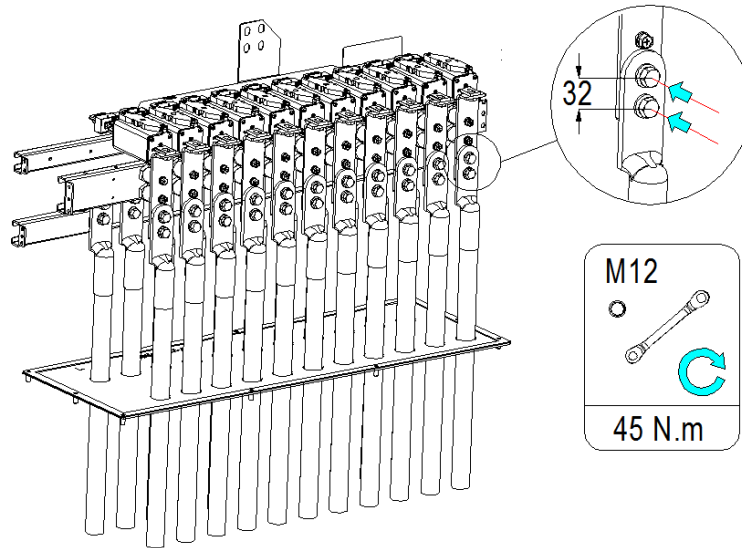

Figure 3-3 Connecting the PV cable and the copper bar
Step 3: Pass the PV DC input cable through the bottom aluminum plate, and enter the inverter cabinet, mark the polarity of the cable, reliably crimp the appropriate terminals, and then use the M12 * 40 bolts reserved on the copper bar to fix the terminals to the wiring holes, as shown in Figure 3-3. If copper wires are used as the cables, only copper conductors can be used as the terminals. If aluminum